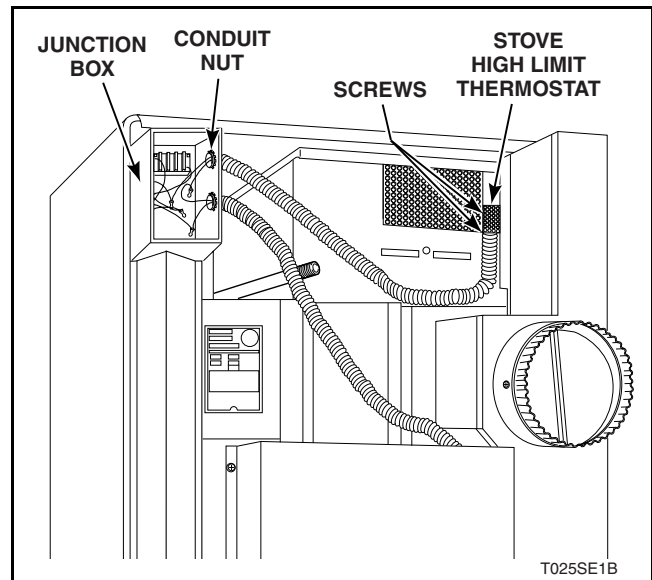

Figure 18
- Remove screw holding cover to junction box or airflow switch. Remove cover. Refer to *Figure 18*.
- Remove conduit nut from BX on inside of junction box. Refer to *Figure 18*.
- Remove two screws holding thermostat and bracket to rear side of burner. Refer to *Figure 18*.